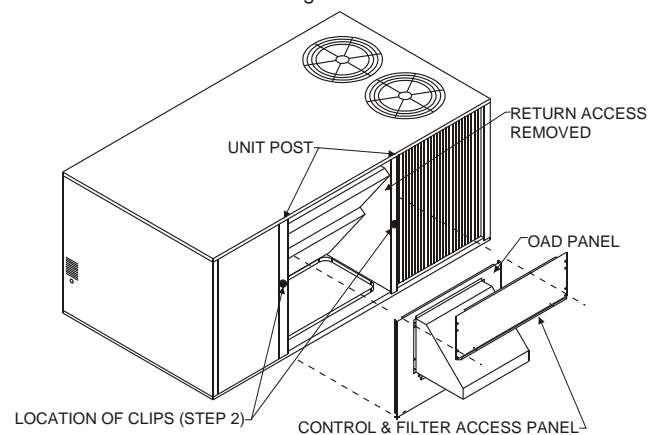

Figure 2
4. Install filter access panel and secure to unit. See Figure 2.